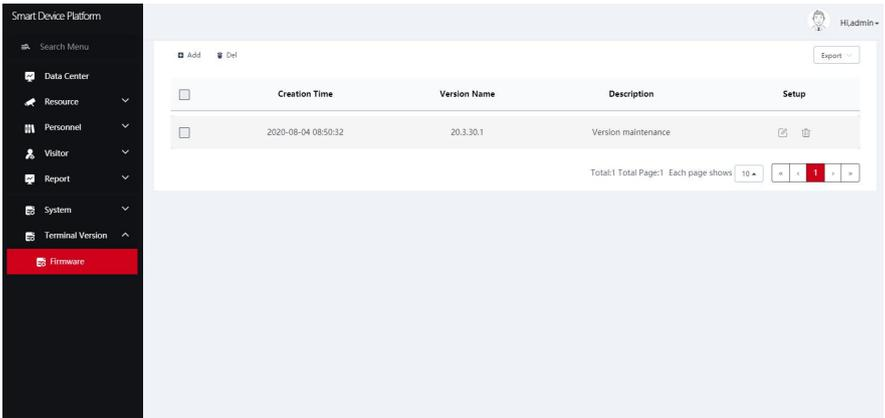

Figure 5-103
Step 1: In the smart device platform interface, click "Terminal Version→Firmware" to enter the firmware version interface, as shown in Figure 5-103 below.